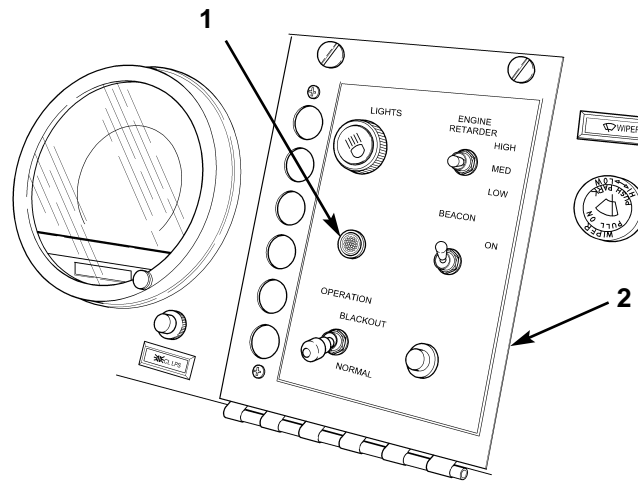

Figure 88. ABS Warning Light Operation.
4. Turn on ignition switch. Refer to TM 9-2320-283-10. Observe ABS warning light (figure 88, item 1) on center control panel (figure 88, item 2) illuminate for three seconds and then go off. At same time, listen for all four modulators to cycle twice; a clicking sound should be heard. Turn ignition switch off.